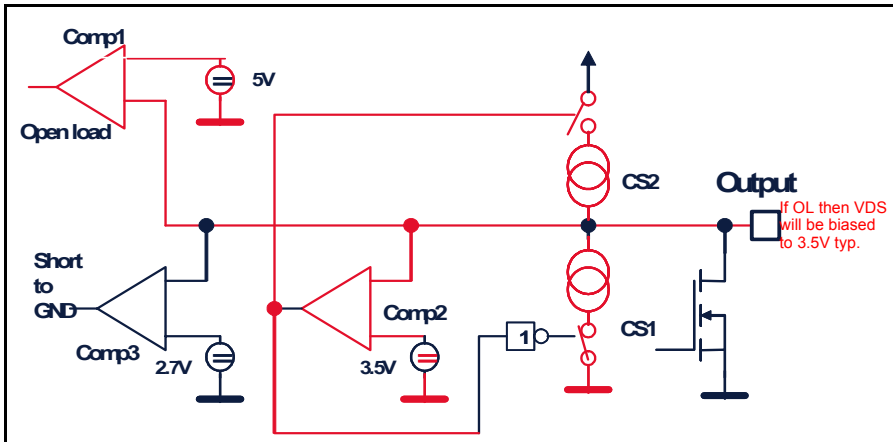

Figure 13 OL Detection Scheme
4.3 Open Load (OL)
Open Load fault is only detectable when the channel is in off state. When OUTx is opened or its voltage drops to approximately $V_{DS(OL)} = 5V$ threshold, comparator 1 in Figure 13, detects an open load (OL) fault. Subsequently, CS1 (current sink), CS2 and Comp2 function together to bias the drain to typical 3.5V. This voltage is biased at the drain to keep it well above the shorted to ground threshold voltage ($V_{DS(SCG)} = 2.7V$ typ.). This is essential to differentiate between Open Load(OL) and Short to GND(SCG) faults. After fault filtering time corresponding bits DIA_REGx are set to LH respectively.